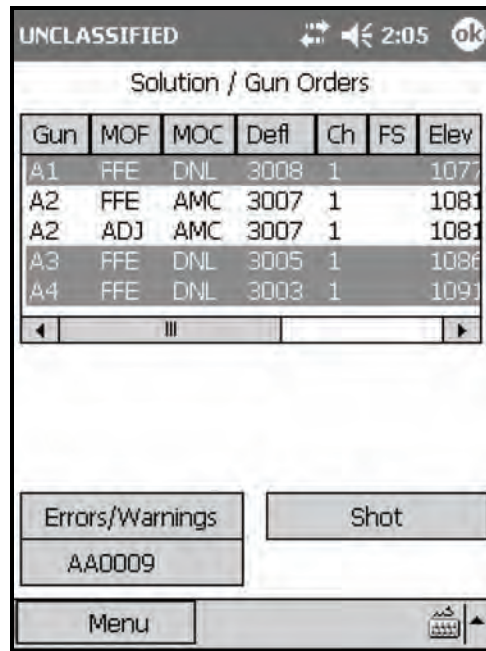

Figure 18-56. Final Protective Fire: Initial Solution screen.
(10) Change the fuze setting for the FFE to IMP.
(11) Ensure that all other data is correct, and select Use All.
(12) The Solution/Gun Orders screen (Figure 18-56) displays.